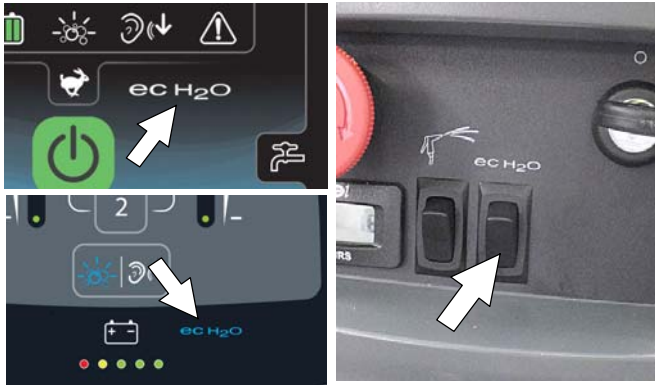

FIG. 74
3. ec-H₂O models - The ec-H₂O system will automatically turn on at key start up. The ec-H₂O indicator will appear on the control panel indicating that the system is activated (Figure 74).
ATTENTION: When conventional scrubbing with cleaning detergents in solution tank, make sure to turn off the ec-H₂O system by pressing the ec-H₂O switch (Figure 74). If cleaning detergent is accidentally cycled through ec-H₂O system, a system fault will occur. To clear fault, drain solution tank, add clear water and operate the ec-H₂O system to clear fault. If fault repeats, continue to recycle key until fault clears. See SERVICE INDICATOR CODES for further detail.